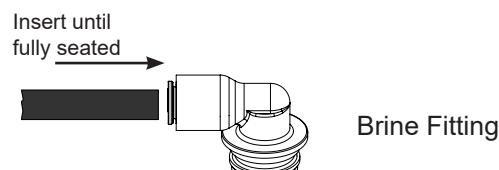

figure 2
- Find a smooth, level location clean and free of debris for the brine system. Locate and place the brine system within 15 feet of the softener (15 feet maximum brine line distance). Connect the brine line to the brine tank and the softener with the supplied 3/8" O.D. poly tubing (see *figure 2*).